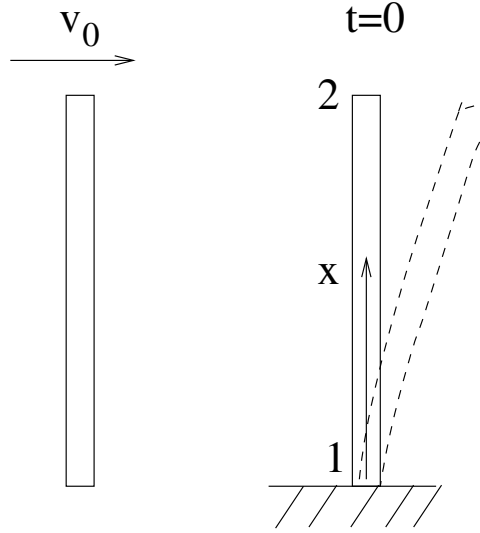

Figure 3: Problem 3
- The bottom of a beam of length $L = 1$, moment of inertia $I = 1$, Young modulus $E = 1$, cross sectional area $A = 1$ and density $\rho = 210$, travelling with uniform velocity $v_0 = 1$ is suddenly fixed at time $t = 0$ as shown in Fig. 3. Modelling the entire beam by one beam element, and using the energy-momentum conserving algorithm given by